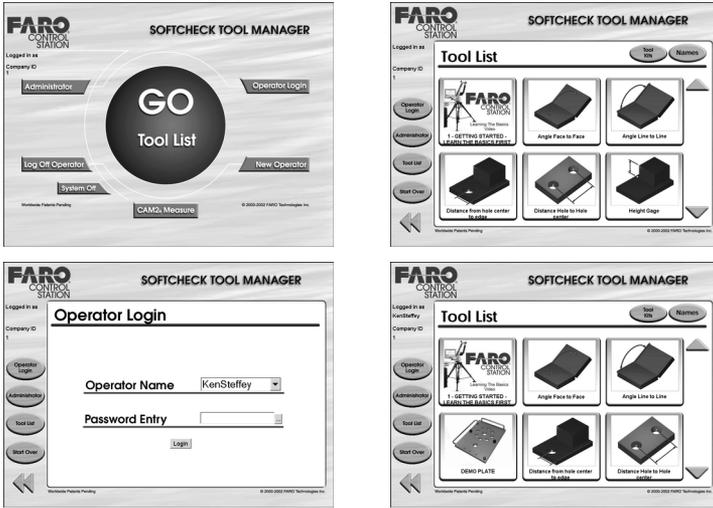

Figure 3-8 Starting SCTM - Opening Screen On and Login Required Off
- The Opening screen opens when the LOGIN REQUIRED button is OFF and the OPENING SCREEN button is ON. From the Opening screen, an operator can open the public tool using the GO button, or log in using the LOGIN button to open those tools an administrator assigned to that operator. See Figure 3-8, “Starting SCTM - Opening Screen On and Login Required Off.”